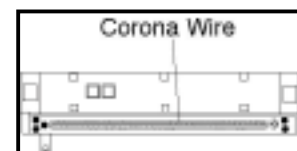

Figure 3
6. Clean corona assembly with a cotton swab saturated in 99% IPA (Fig. 3).